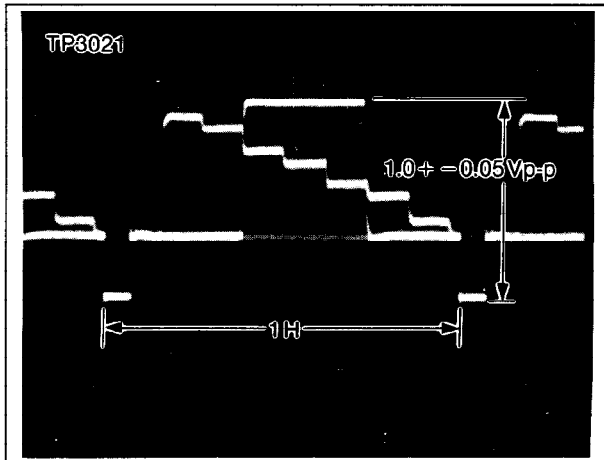

Fig. E21
6. Adjust VR302 so that the luminance level to be  $1.0 \pm 0.05 \text{Vp-p}$  as shown in Fig.E21.